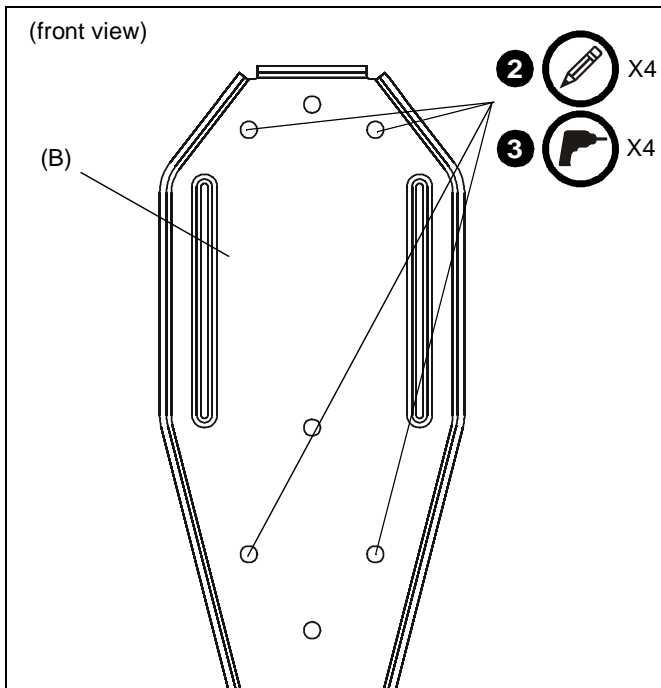

Figure 1
2. Using mounting bracket (B) as a template, mark four holes at the outer holes in bracket. (See Figure 1)
3. Drill four 3/8" holes at marked locations in wall. (See Figure 1)